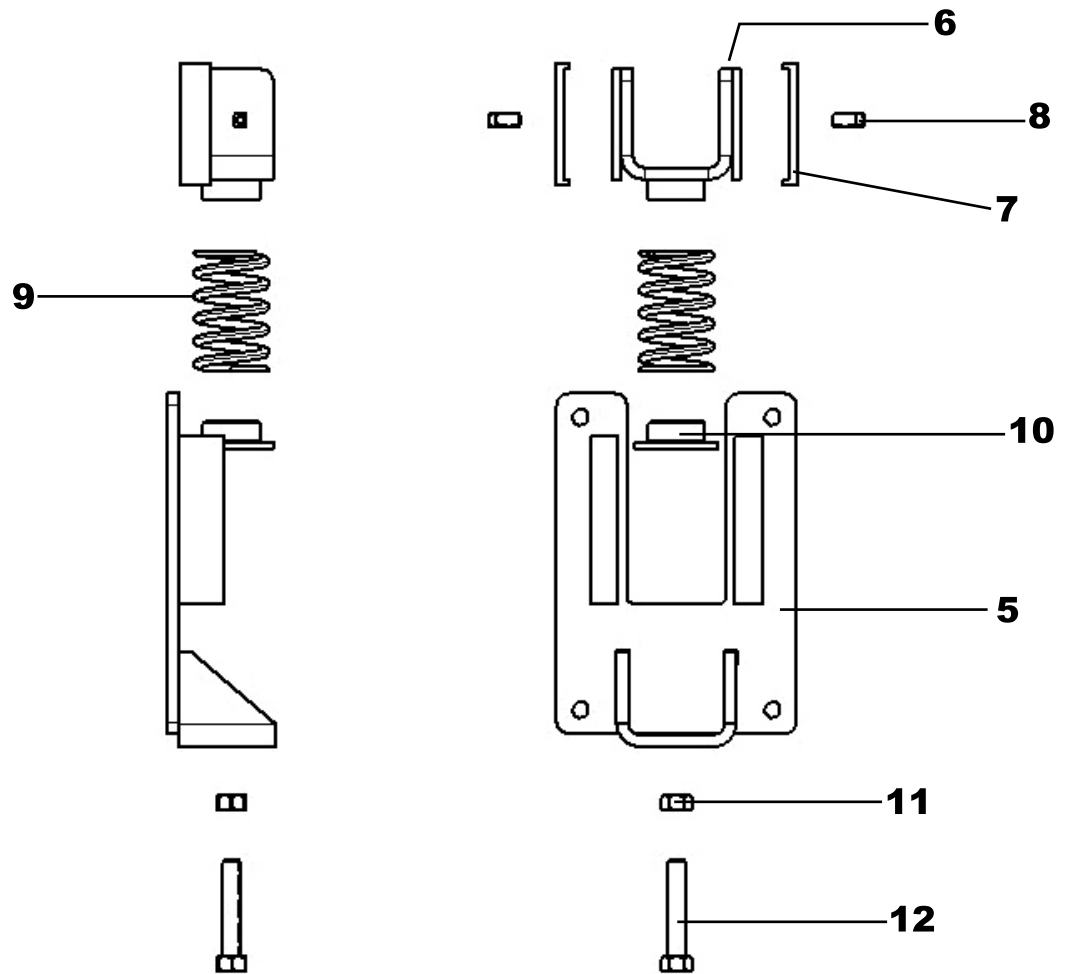

Figure 2. Spring-Shoc Tensioner Parts Diagram
- With the Mounting Brackets attached, now assemble the Spring-Shoc Tensioners as shown in Figure 2.